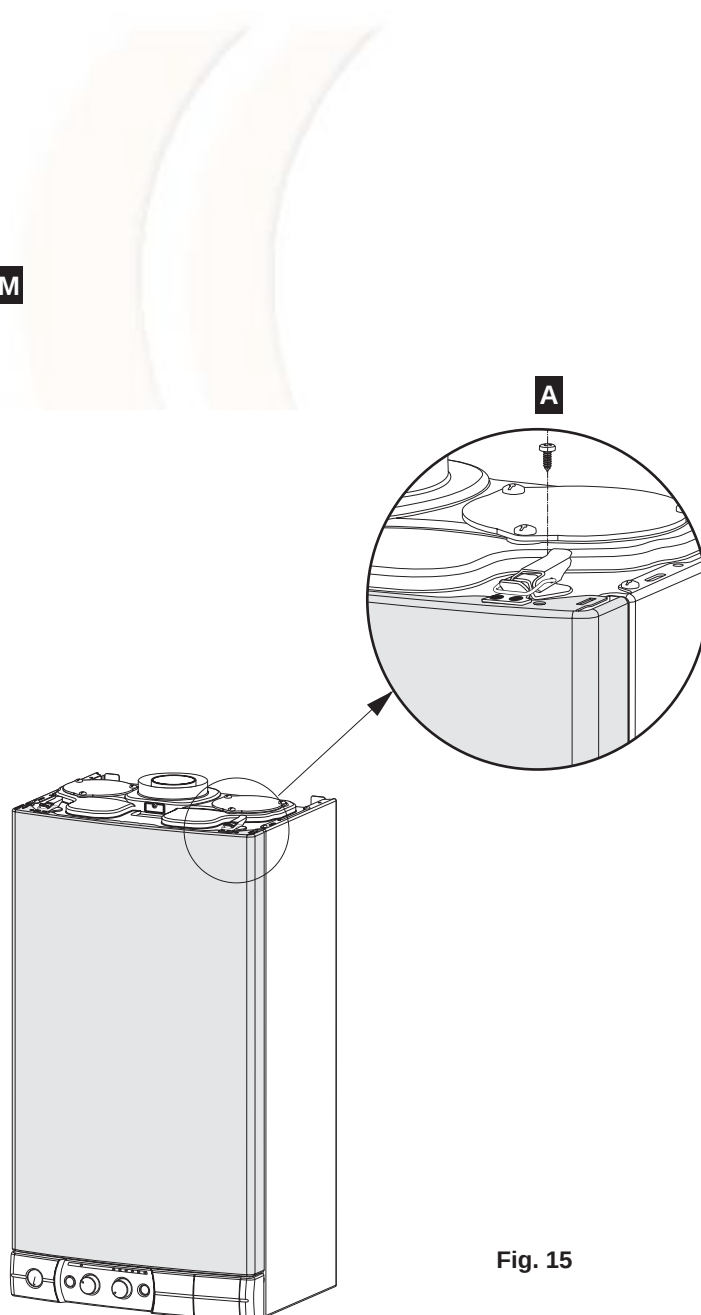

Fig. 15
- close the panel mounting clamps (fig. 15)